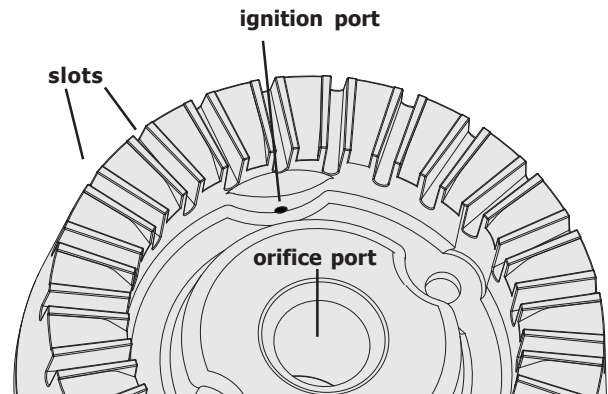

Fig. 1 - Cooktop burner head
Each burner head has a small ignition port located as illustrated. Should you experience ignition problems it may be that this port hole is partially blocked with soil. With the burner head in place, use a small wire gauge needle or the end of a paper clip to clear the ignition port (See Fig. 1 - center burner not shown).
1. Open oven door completely (horizontal with floor - See Fig. 1).